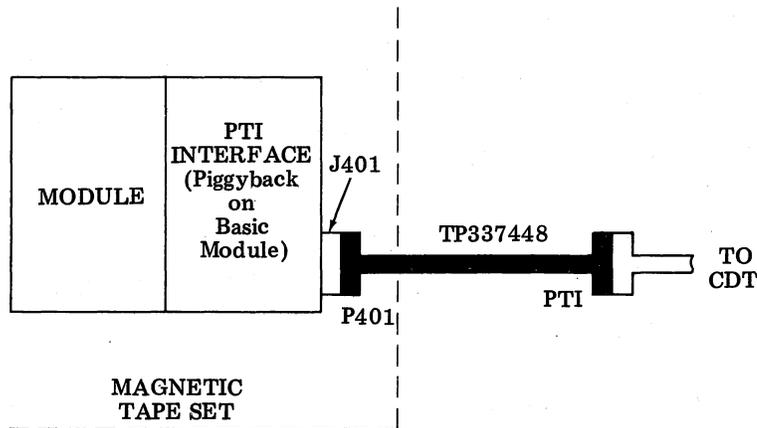

Figure 14 - Magnetic Tape Set Interfaced to CDT
3.48 This connection is achieved as shown in Figure 14. The procedure is as follows: